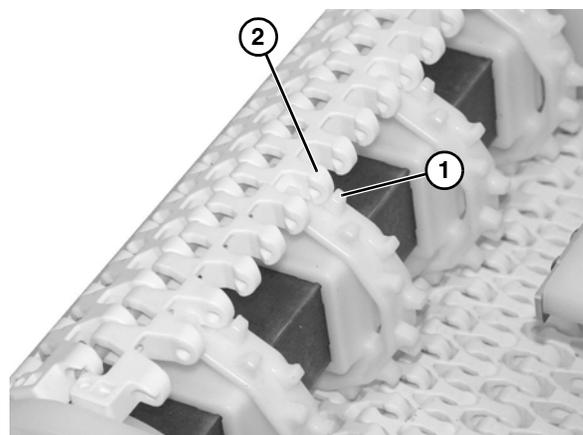

Figure 18
- Wrap the belt around the drive end of the conveyor, making sure the sprocket teeth have engaged the belt, with concave teeth (**Figure 18, item 1**) mating with rounded section (**Figure 18, item 2**) of belt.